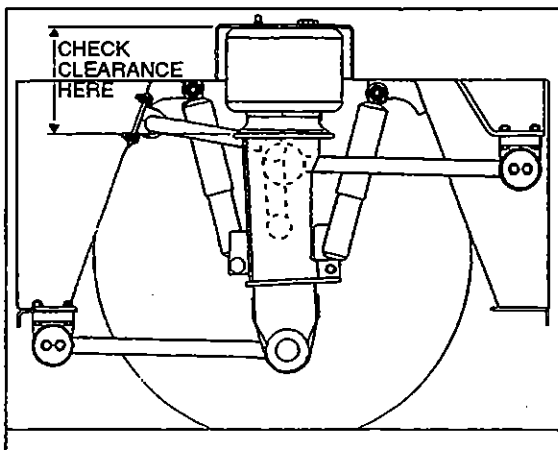

Figure 13
1. With the vehicle at normal operating air pressure, check the air spring clearance as illustrated in figure 13. This clearance should be  $12 \pm 0.25$ " ( $305 \pm 6$  mm) for the front axle air springs and  $11.5 \pm 0.25$ " ( $292 \pm 6$  mm) for those on the drive axle.
**Note:** The measure should be taken from under the upper air spring support on sub-frame to top of the lower air spring support on axle (refer to fig. 13 for more details). If adjustment is required, begin with the drive axle.